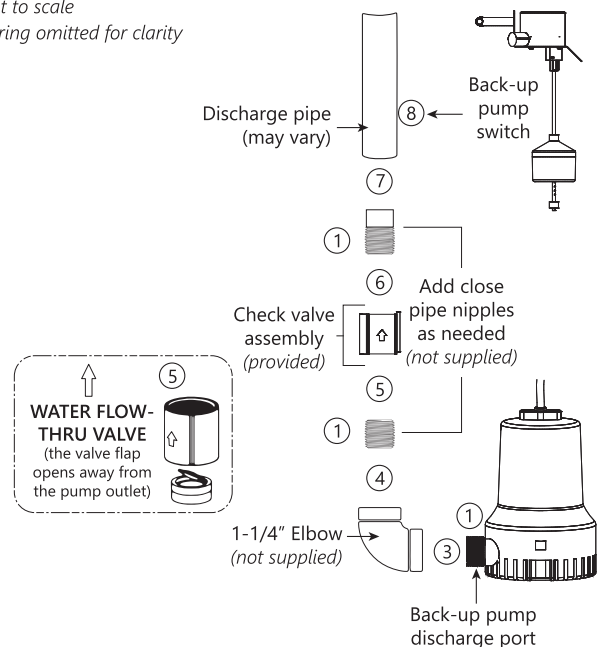

Figure 4. Installation Method A
1. Apply (2) wraps of thread seal tape to all threads.
5. Thread the check valve assembly onto the close pipe nipple. **IMPORTANT:** Make sure the check valve is installed in the correct direction. See the inset drawing in Figure 4.